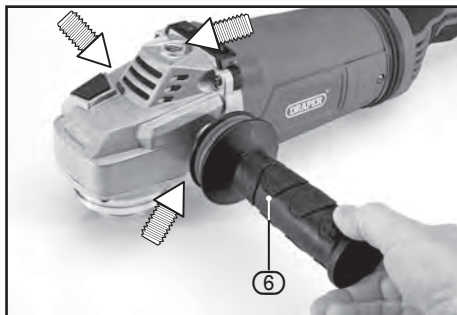

FIG.1
8.1 FITTING AUXILIARY HANDLES – FIG. 1